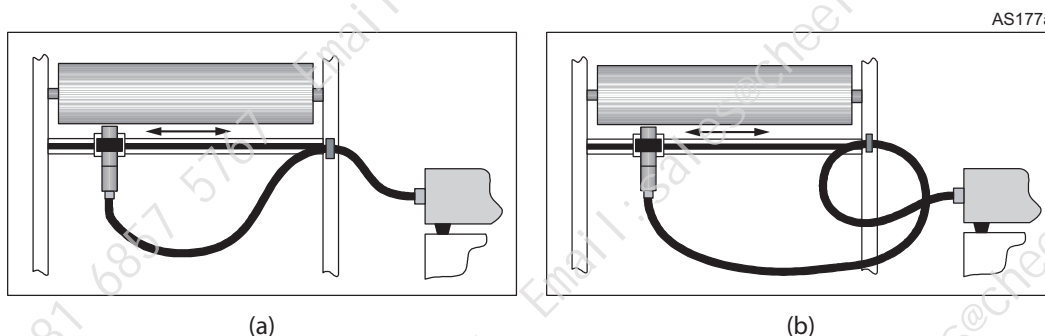

Figure 5. Conduit loop
- To decrease the strain when the conduit bends as shown in Figure 5 (a), make a loop in the conduit as shown in Figure 5 (b). Consider the use of a 4-metre conduit to make a wider loop if the traversing arm is long.